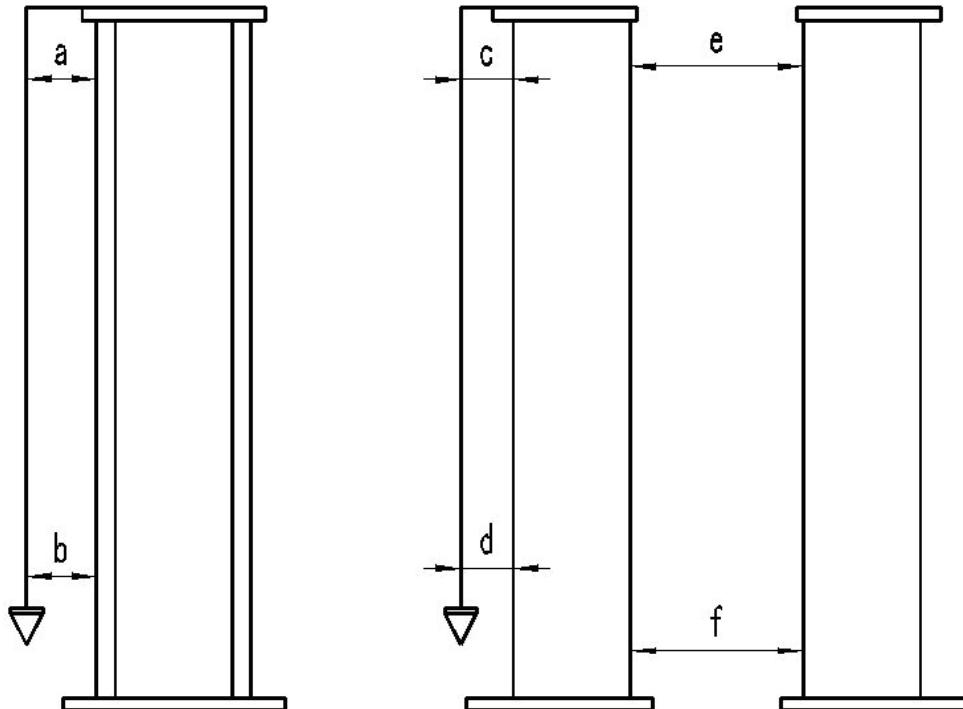

Fig. 9
- Check to make sure that the columns for square-ness and plumb are as shown in the figure 9.